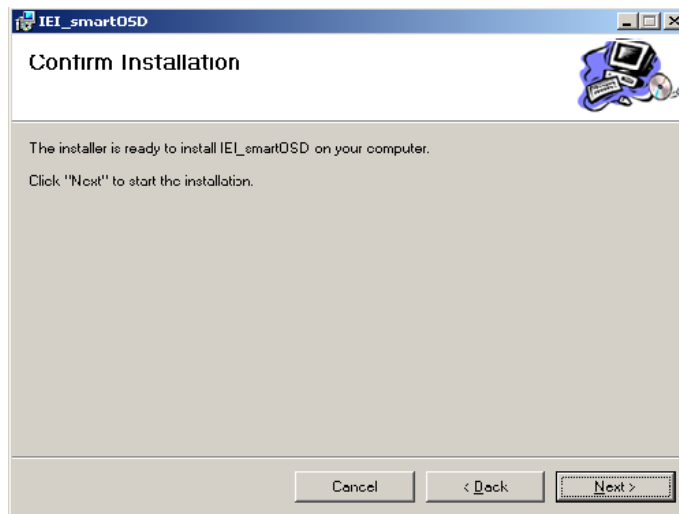

Figure 6-14: smartOSD Confirm Installation
Step 8: The screen in Figure 6-14 appears.